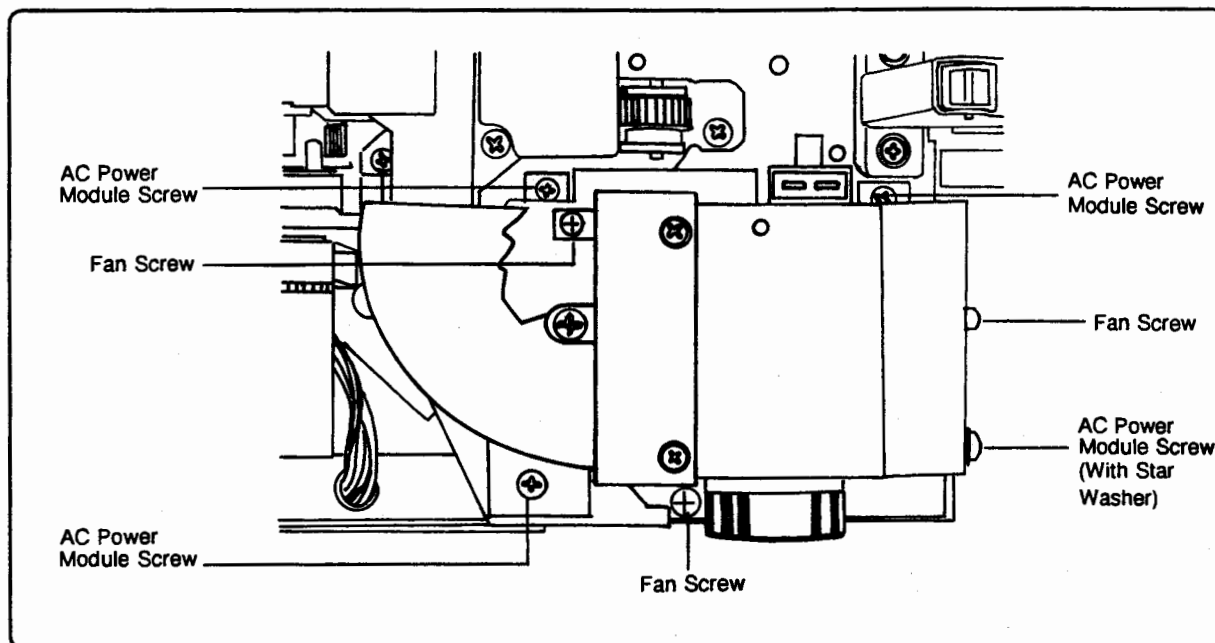

Figure 6-15. AC Power Module and Upper Cooling Fan
2. To remove the Upper Cooling Fan, which rests on the AC Power Module (see Figure 6-15), remove the connector and the screws (3) that secure it to the module.
The AC Power Module, located below the Upper Cooling Fan, is shown in Figure 6-15. The Circuit Breaker is located at the frontmost end of the AC Power Module beneath the Ozone Filter Mount.